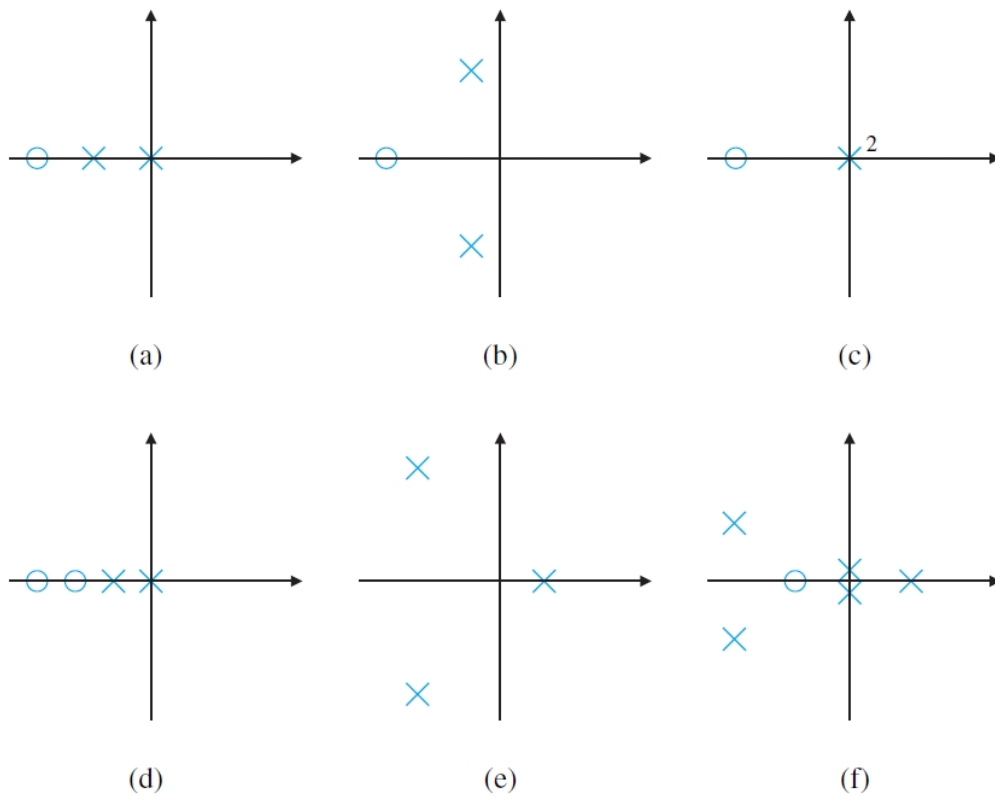

Figure 3: Pole-zero maps.
**Problem 4.** Roughly sketch the root loci for the pole-zero maps as shown in Fig. 3 without the aid of a computer. Show your estimates of the center and angles of the asymptotes, a rough evaluation of arrival and departure angles for complex poles and zeros, and the loci for positive values of the parameter  $K$ . Each pole-zero map is from a characteristic equation of the form